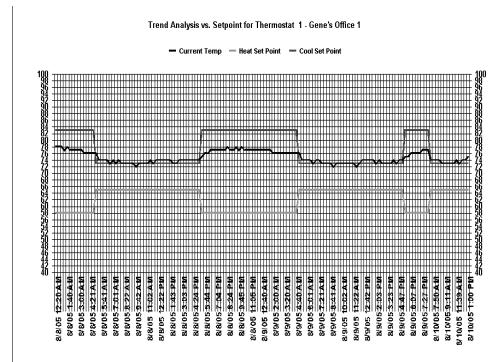

Fig. 37
- The chart displays temperatures from 40-100° in 2° increments on the Y axis, and dates and times are displayed on the X axis (see Fig. 37).